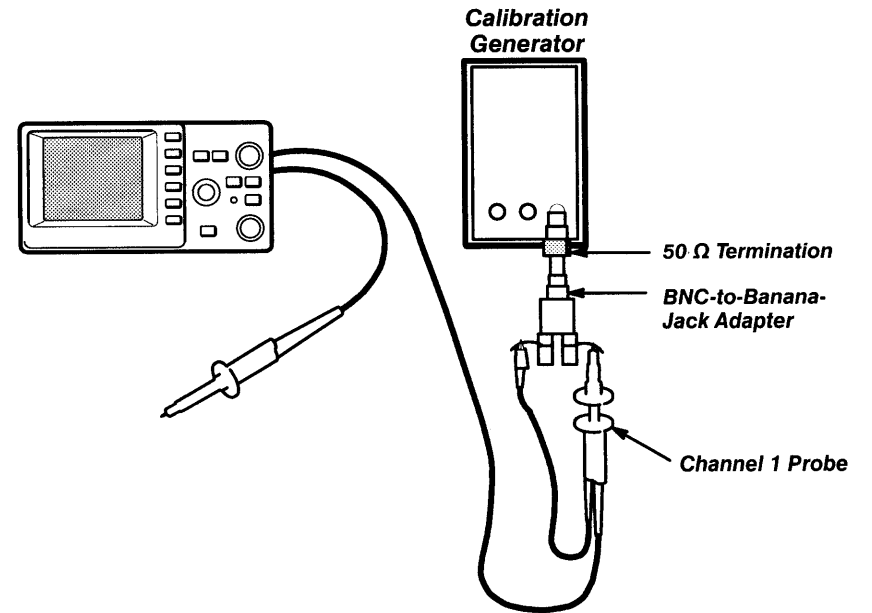

Figure A-15: Setup for Probe Compensation Check
- a. Set up the equipment as shown in Figure A-15.